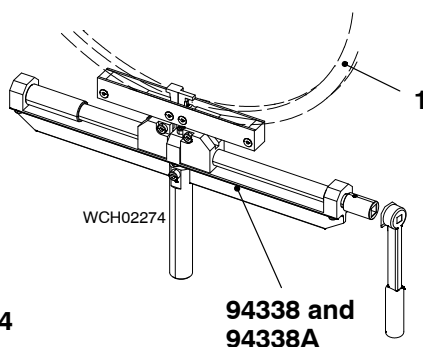

Fig. 4
- 1) Use the tool (94338, Fig. 4) to remove the top piston ring. Make sure that you do not cause damage to the chrome-ceramic surface.